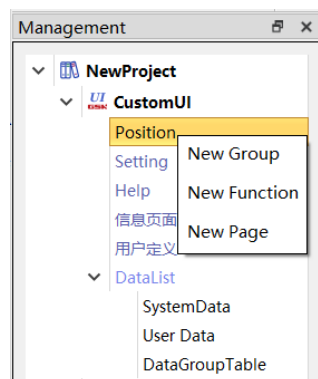

Fig. 1-83
(5) Under "CustomUI" (CustomUI), there are three nodes: "Position" (Position), "Setting" (Setting) and "Help" (Help), as shown in Figure 1-83. Right-click on these three nodes and select "New Function" to create a "Function" under the current node, and there is a page under the function.